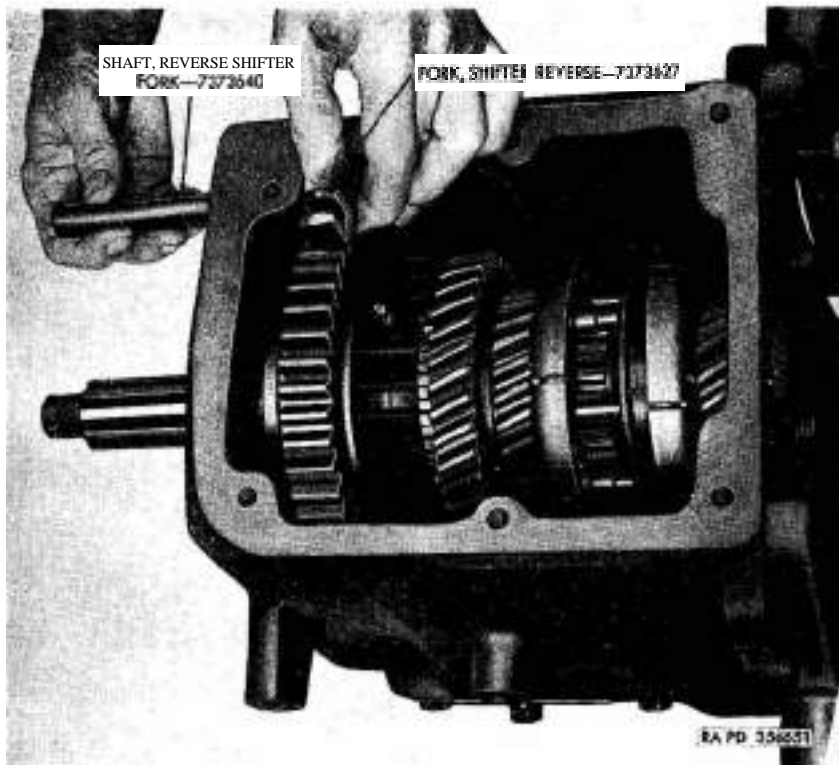

Figure 100. Removing reverse shifter fork.
a. *Remove Companion Flange.* Remove companion flange nut (PP) and companion flange plain washer (NN). Pull companion flange (MM) from main shaft (CC).
b. *Remove Main Shaft Bearing Retainer.* Remove five 5/16-18NC x 1 cap screws (KK) and 5/16-inch lock washers (JJ). Remove main shaft bearing retainer (HH) and main shaft bearing retainer gaskets (GG) from transmission case.
c. *Remove Reverse Shifter Fork* (fig. 100). Drive reverse shifter fork shaft to the rear with a bronze drift and hammer. Remove the reverse shifter fork.
- (1) Drive main shaft assembly (CC) to the rear with a bronze drift and hammer until main shaft ball bearing (EE) is out of transmission case. Remove separately : synchronizer outer stop ring (G), synchronizer inner